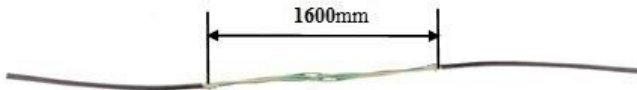

Figure 2
3.2 When straight-through cable stripping, should put the length of the fiber optic cable skin peeled off as about 1600 mm, Reserve reinforced core in 85 mm length and cut off the unnecessary ones. See figure 2